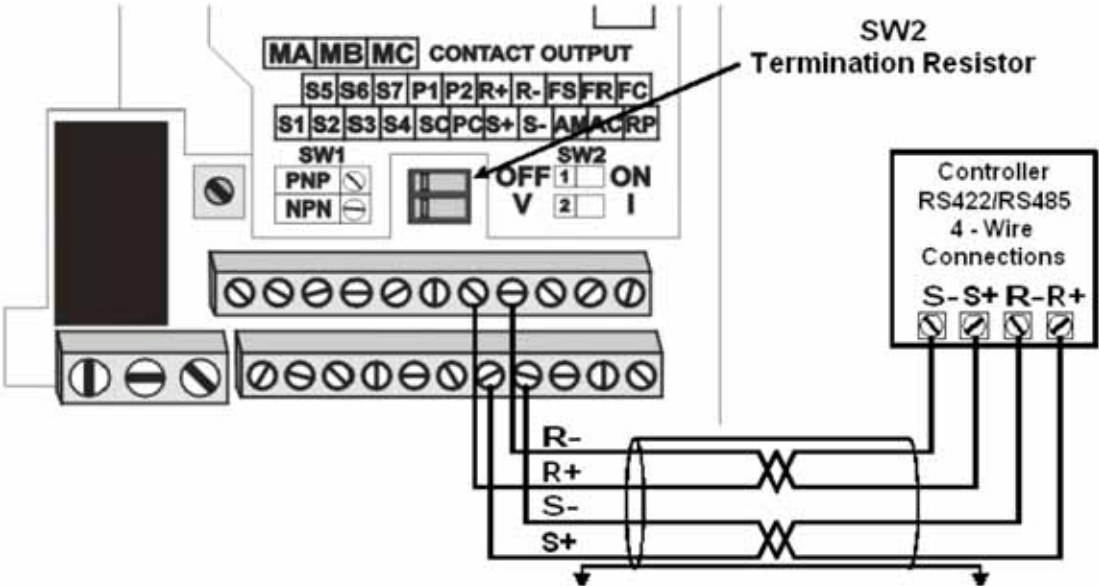

Figure 1.3 RS-422/RS-485 4-Wire Network Connection
- ☐ **5.2:** Connect the controller to the S+/S- and R+/R- terminals on the V7 drive's terminal block as shown in *Figure 1.3 RS-422/RS-485 Connections*.